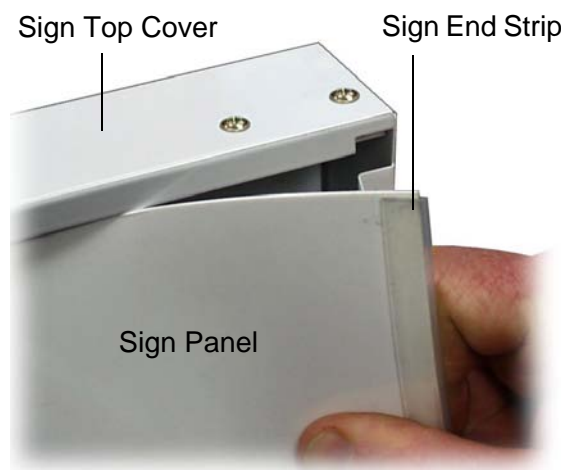

Figure 7:
2. Remove the sign panel by starting at one of the top corners and pulling the sign panel out from under the sign top cover (see Figure 7 below).